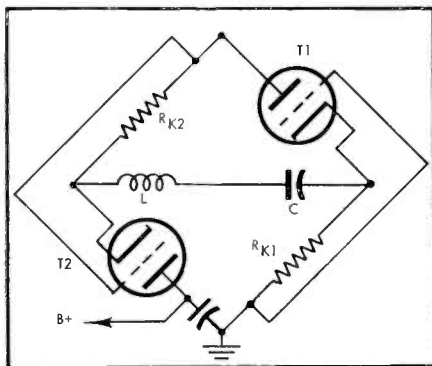
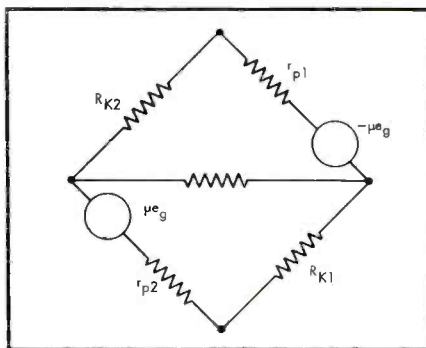

Fig. 1. Basic circuit of the series-tuned oscillator, which may be used for audio as well as radio frequencies.
Fig. 2. Equivalent circuit of the schematic of Fig. 1.
Fig. 2. 'Scope patterns: (A) 45-deg. trace which should appear when amplifier inputs are paralleled and the gains are equal. A monophonic disc will also give the same trace when played on a stereo system, although pattern may appear more like (C) in Fig. 3 because of pinch effect, which is actually vertical modulation. (B) 315-deg. trace, obtained by playing a vertical-cut record. It will sound like a monophonic record with one speaker out of phase. (C) 0-deg. trace, left channel only. (D) 90-deg. trace, right channel only.
The next step is to balance the gain of the two amplifiers. Play a lateral recording (a frequency record is preferred). For tape equipment, parallel the inputs as before and play monophonic tape. Turn the amplifier input to monophonic or standard. This should give the same trace as when the 'scope was set as above. If the trace is not at 45 deg. adjust the gain of the individual amplifiers to make it as at (A) in Fig. 2. If the trace is not a thin line but instead is a wide pattern (dotted line), there are some non-uniform phase shifts in the amplifiers. Stereo amplifiers should be identical. Note particularly the grid, plate, and cathode resistors and the coupling capacitors. Any wide divergence between amplifiers results in a non-uniform phase shift. This is very important when the amplifier is compensated with negative feedback from the audio transformer secondaries. Amplifiers having resistance-capacitance feedback networks can have considerable phase differences. It is important that the amplifiers are so corrected and adjusted to give a thin 45-deg trace on the
THE SERIES-TUNED CIRCUIT as a frequency-determining element in an oscillator has been used from time to time and found to have certain advantages. In most cases, it is in the form of a piezo-electric crystal and requires an additional parallel-tuned tank. Other applications are restricted to frequencies close to the self-resonant frequency of the tube used; still others are actually as a variable element in a parallel-tuned circuit. It would appear that something more flexible such as the arrangement shown in Fig. 1 would be welcome addition to those now in use.
The equivalent circuit, Fig. 2, shows more clearly that the T_1 has, as a load, the cathode resistor (R_{k2}) of tube T_2 plus the series resonant circuit represented by r ; and that tube T_2 has R_{k1} and r for a load. Going to Fig. 1, it can be seen that due to the method of connecting the grids, a slight rise in the voltage at the grid of T_1 , will cause a current flow through R_{k2} in such a direction as to drive the grid of T_2 negative. This negative swing of the grid of T_2 will in turn drive R_{k1} so as to make the grid of T_1 more positive. Hence, we have a build up in one direction until saturation in one tube or cut-off in the
It seems likely that this type of oscillator will be found more useful when used with a crystal as the series-tuned circuit. As it stands (Fig. 1) it is inconvenient to use an ordinary grounded tuning capacitor and permeability tuning is indicated. However, where a separate oscillator power supply is used, the cathode of T_1 may be grounded so that a regular capacitor with its grounded plates connected to this point will do for tuning. Of course, in this case, the negative lead of the supply is returned to the bottom of R_{k1} .